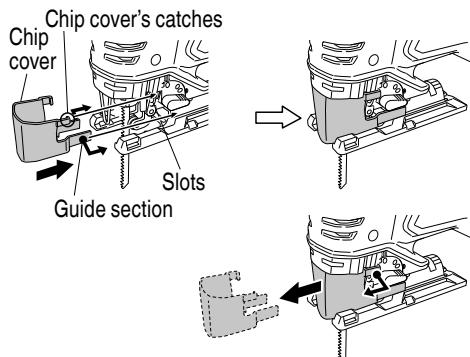

Fig. 17
10. Attaching and detaching the chip cover (Fig. 17)